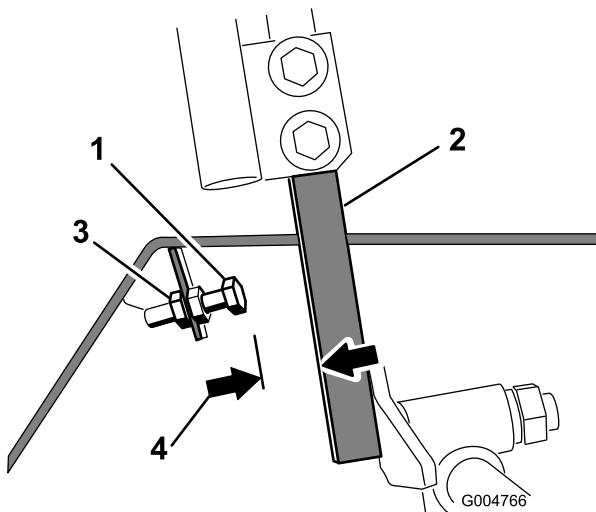

Figure 54
4. Loosen the jam nut on the stop bolt for one of the control levers (Figure 54).